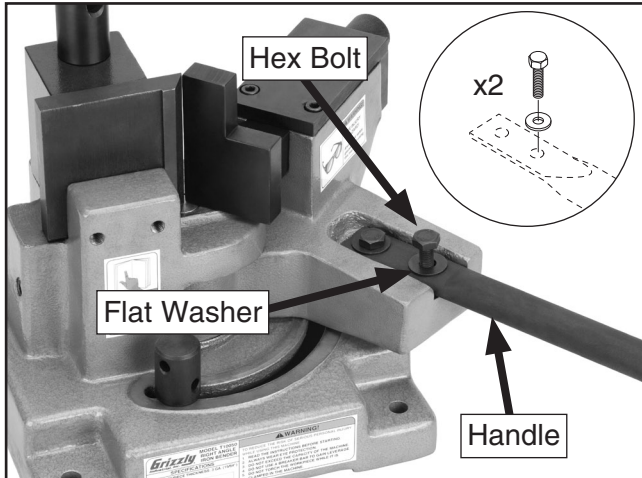

Figure 5. Attaching handle.
1. Connect the bender handle to the machine with the M10-1.5 x 40 hex bolts and 10mm flat washers (**Figure 5**).